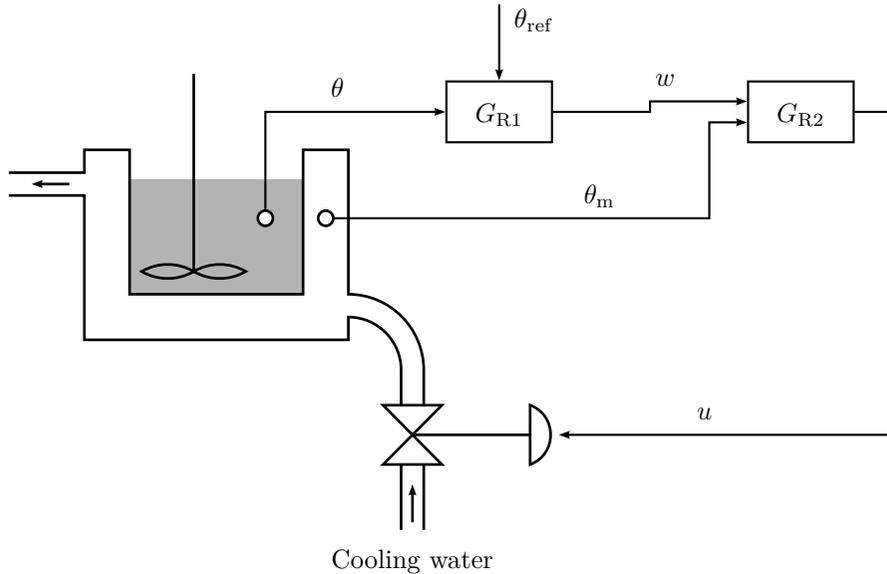
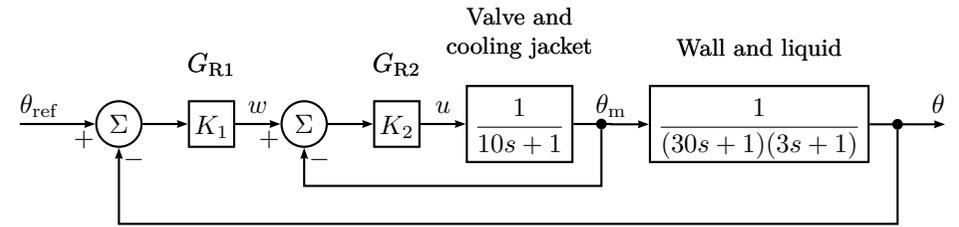

Figure 7.1a
Figure 7.1b
7.1 To control the temperature θ in a chemical reactor, the control system in Figure 7.1a is used, where θ_{ref} is the desired (reference) temperature. The temperatures θ and θ_m in the reactor and the cooler, respectively, are measurable and can be used to control the valve u . The structure of the control system is given by Figure 7.1b. It is here assumed that both G_{R1} and G_{R2} are P controllers.